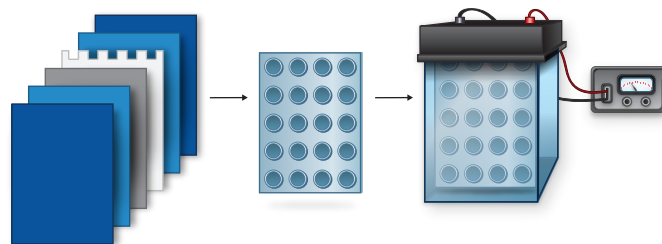
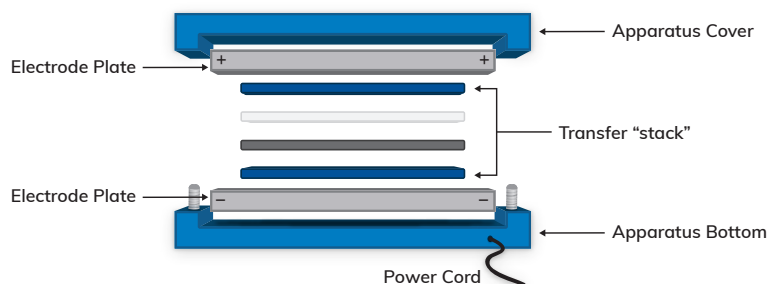

Figure 1.3. A typical wet transfer setup.
Figure 1.4. A typical semi-dry transfer setup.
Two types of transfer setups are popular for Western blotting, wet transfer (Figure 1.3 and Table 1.4) and semi-dry transfer (Figure 1.4 and Table 1.5).
**Semi-dry Transfer**—The semi-dry transfer setup uses a similar transfer stack to the wet transfer setup, but instead of getting submerged in a tank filled with buffer the transfer stack is placed directly between two electrode plates (Figure 1.4). Thus, this method avoids the large amounts of buffer needed in a wet transfer system (Table 1.5).